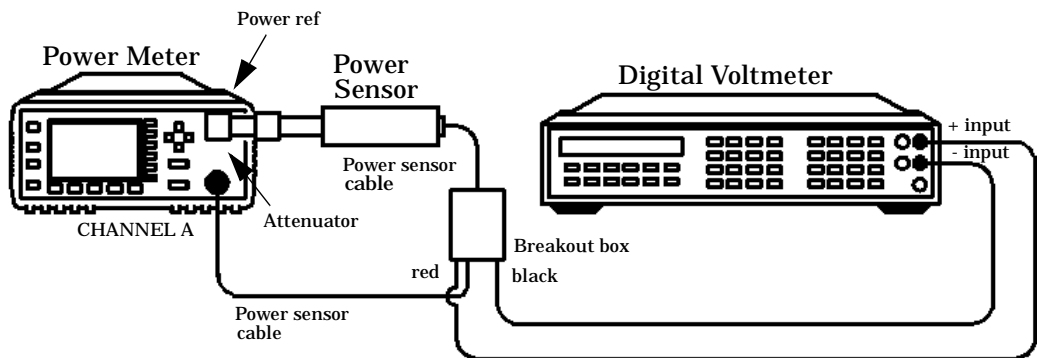

Figure 2-2: Test Setup With Attenuator Connected
11. Connect the 30dB reference attenuator as shown in Figure 2-2: